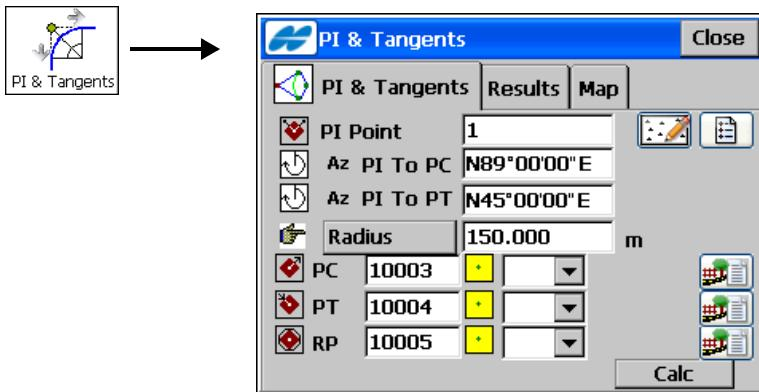

Figure 11-30. PI & Tangents
To compute the the PC point, the PT point and the center (Radius Point) of a Curve, given the Point of Intersection (PI), the radius, and the azimuths from the PI point to the PC, and PT points respectively, tap the **PI & Tangents** icon. The **PI & Tangents** screen displays (Figure 11-30 on page 11-26).